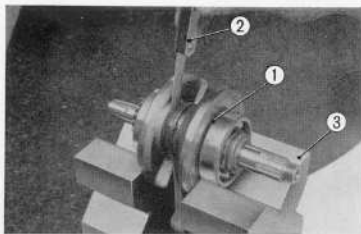

Fig. 3.83 Measuring axial clearance
① R. crankcase
② L. crankcase
③ Dowel pins
2. The clearance in the bearing is measured by fixing the crankshaft on centers and moving the bearing in the axial and vertical direction. (Fig. 3.83)